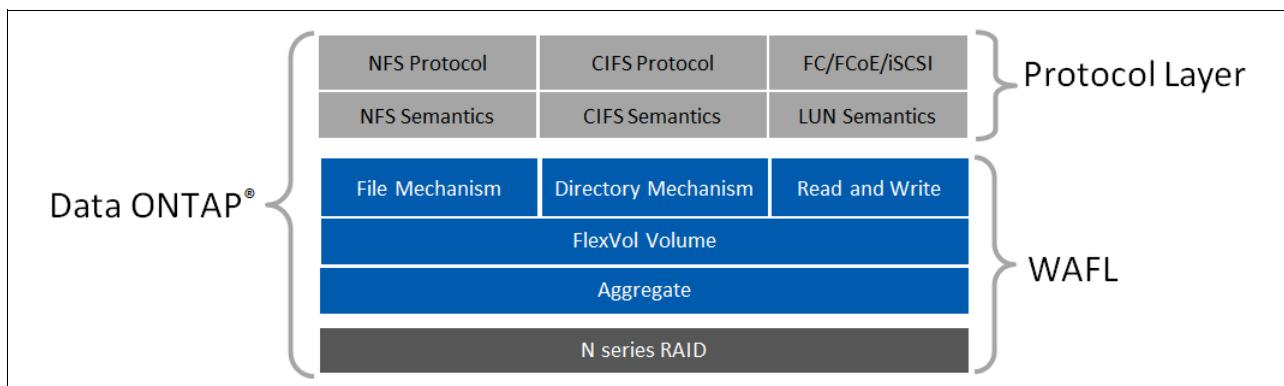

Figure 11-1 WAFL
- ▶ WAFL is highly data aware, and enables the storage system to determine the most efficient data placement on disk, as shown in Figure 11-1.